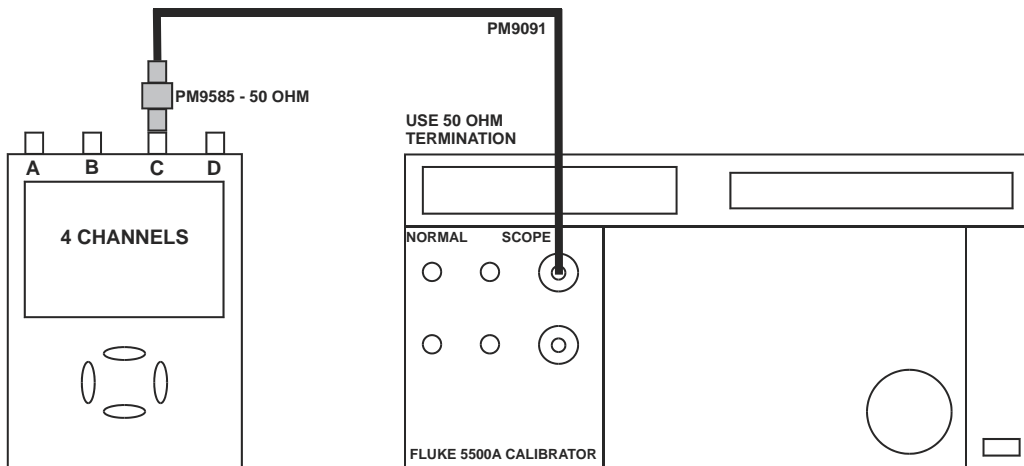

Figure 5-13. 5500A SCOPE Output to Test Tool Input C
2. Connect the Test Tool to the 5500A as shown in Figure 5-13.